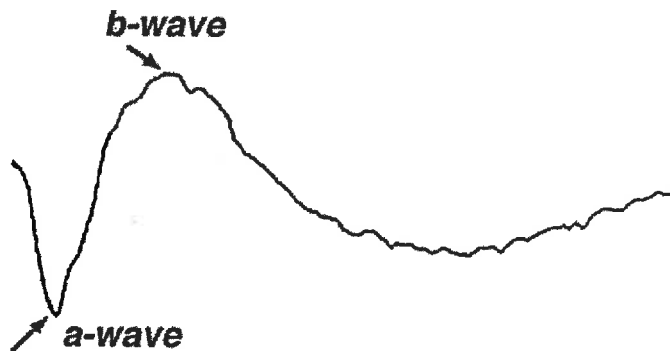

Fig.1 The biphasic waveform of the ERG of a normal patient.
1. The electroretinogram (ERG) is recorded by placing a ring electrode (gold or stainless steel) on the cornea of the eye with a reference electrode (Ag-AgCl) on the forehead and a ground on the neck. The resulting signal shown in Fig. 1 has an amplitude of 0 – 900 μV and a bandwidth of 0 – 50 Hz (the total time for Fig 1 is 150 ms). The signal is caused by flashing a light (time 0 in Fig 1) of different intensities and colours and recording the response of the retina. The important features are times to the peaks of the a-wave and b-wave and the amplitudes from the baseline of each of these waves. Design a measurement system to record the ERG which removes enough noise to allow us to measure these features and record the signal and results. Use a block diagram approach giving the specifications for each block from transducers to final display(s). Consider patient safety and comfort.